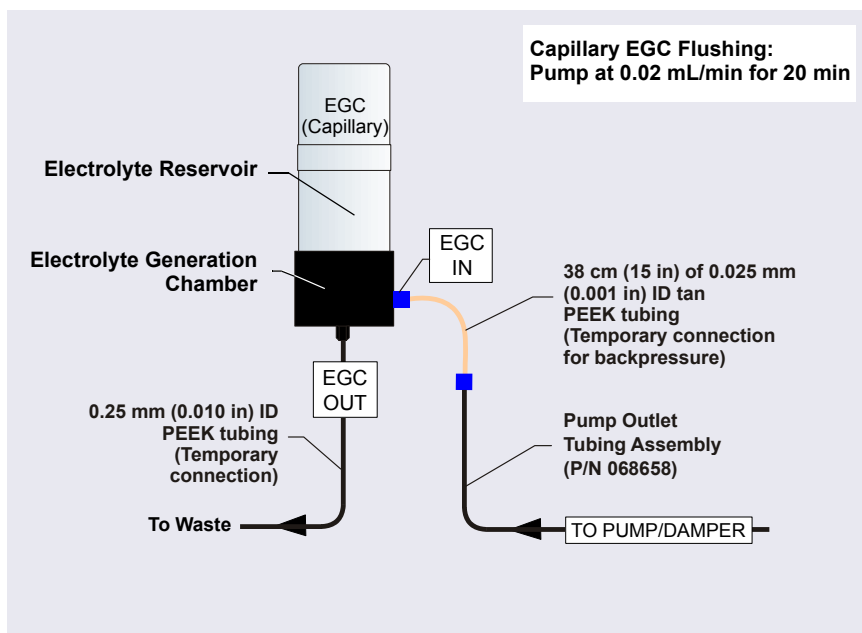

Figure 9-19. Flow Schematic for Flushing the Capillary Dionex EGC
6. Connect one end of this line to the Dionex EGC **INLET** port; connect the other end to the **EGC IN** line from the pump pulse damper (see Figure 9-19). (This is a temporary connection, to provide backpressure during the Dionex EGC setup procedure.)